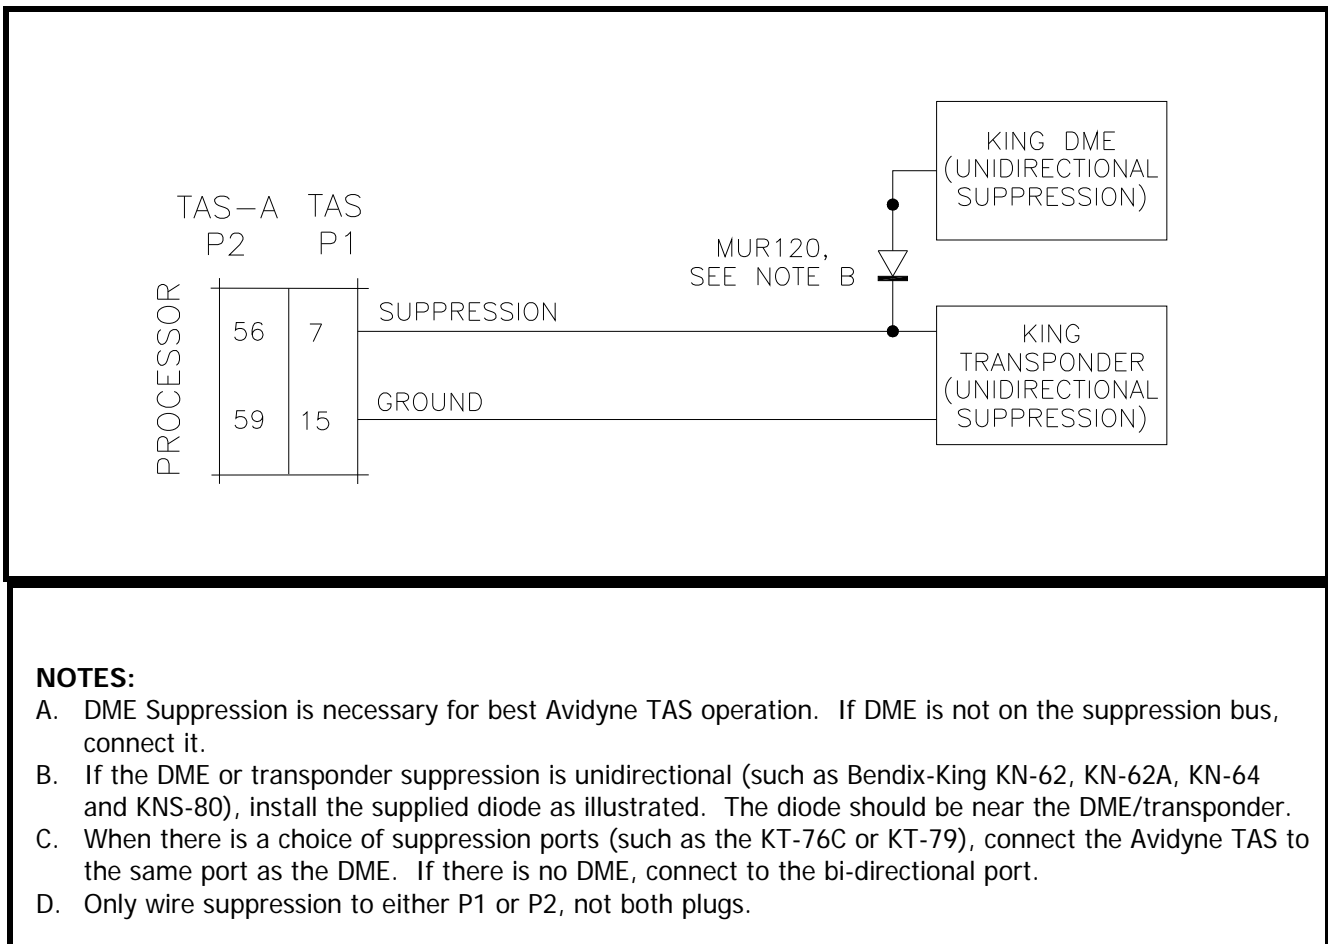

Figure 20: Suppression Configuration for Unidirectional King Transponders and DME
3. When connecting to Bendix-King transponders with a DME, such as KT-76A with KN-62, KN-64 or KNS-80, components are needed to conform the suppression circuit closer to ARINC standards. See Figure 20.
Figure 20 shows how to connect the components to bring the Bendix-King unidirectional suppression closer to ARINC conformity. This applies to the KN-62, -62A, -63, -64 and KNS-80.
8. See Figure 20 on page 69 for unidirectional suppression. Otherwise connect suppression directly to the bus as shown in Figure 28 on page 80.